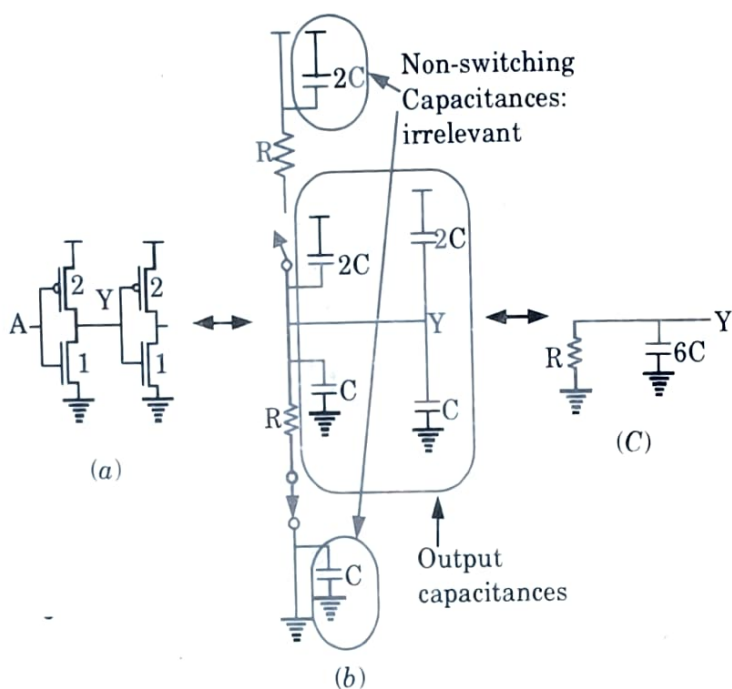

Fig. 2.10.2. Equivalent circuit for an inverter
3. The pMOS capacitors are shown with V_{DD} as their second terminal because the n -well is usually tied high. Fig. 2.10.2 shows the equivalent circuit for a fanout-of-1 inverter with negligible wire capacitance.
4. The unit inverters of Fig. 2.10.2(a) are composed from an nMOS transistor of unit size and a pMOS transistor of twice unit width to achieve equal rise and fall resistance.
5. Fig. 2.10.2(b) gives an equivalent circuit, showing the first inverter driving the second inverter's gate.
6. If the input A rises, the nMOS transistor will be ON and the pMOS OFF. Fig. 2.10.2(c) illustrates this case with the switches removed.